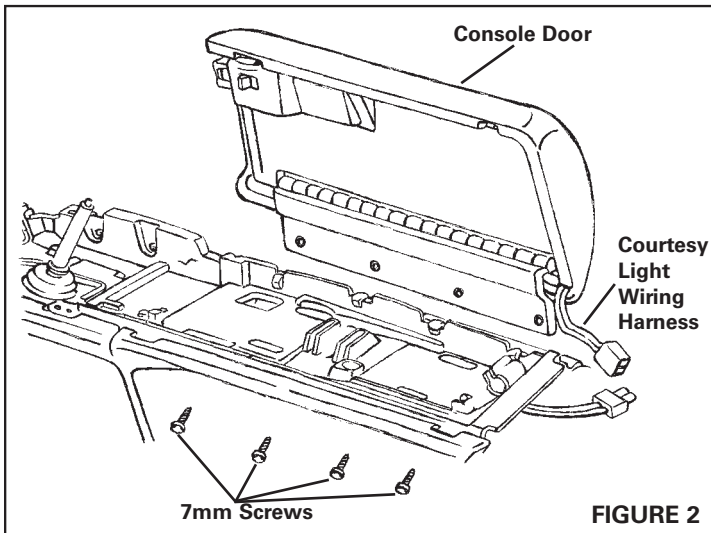

FIGURE 2
3. **'90-'96 models:** Remove the four (4) 7mm screws retaining the console door hinge to the center console. Pull the courtesy light wiring harness out from behind the console compartment, and disconnect to completely remove the door. (Refer to Fig.2)